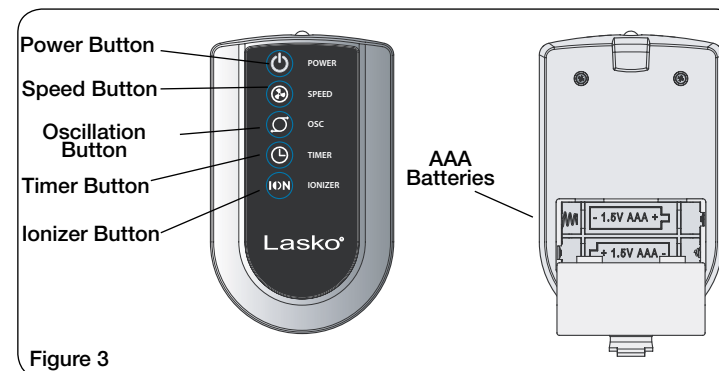

Figure 3
This Fan may be operated by the Manual Controls located on front of the unit or by the Remote Control (Figure 3 and 4).
1. Install batteries (not supplied) as shown in Figure 3. The battery is size "AAA".